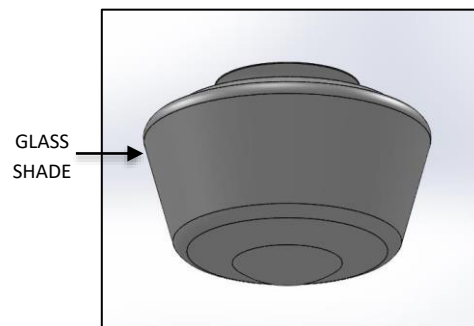

FIG.3 – GLASS SHADE
2. GLASS SHADE (shown in FIG. 3)